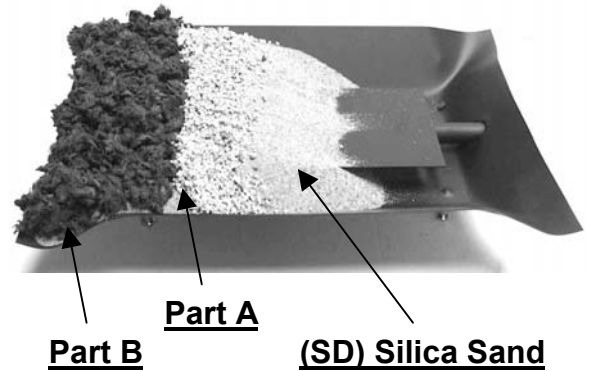

Figure 5
1. Fill the full pan burner pan with **silica sand**. Sand level should be level with the sides of the burner. Place 2/3 of the **Part A Embers** on top of the sand. Burner should be completely full and level. (Fig. 5)